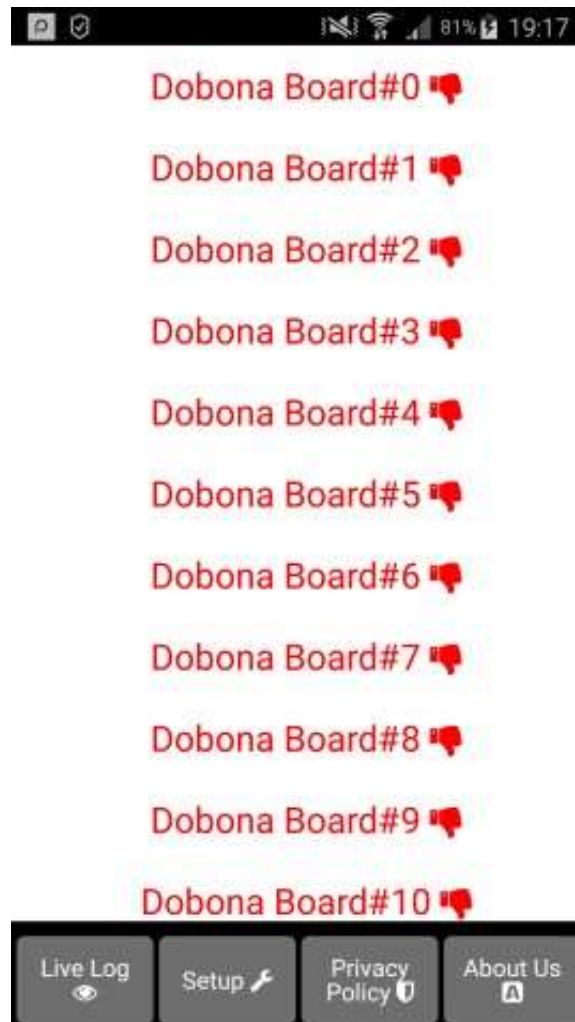

Fig 1.
3. User launches dobona app. the first screen that appears is the live_log screen with scrollable fifty lines, each for setting up a separate board. The red font with the downward thumb shows that no board has been setup so far (Fig.1).